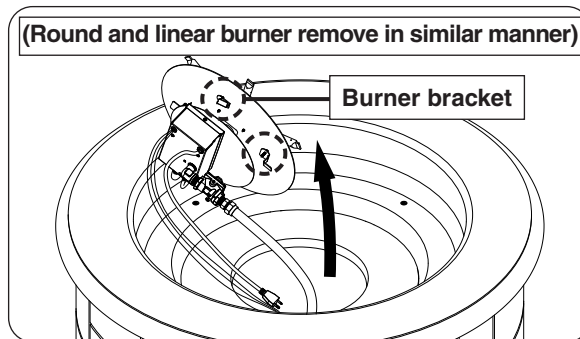

Fig. 48-1 Remove burner assy
1. Use a $\frac{5}{16}$ " nut driver to partially unfasten the eight screws found on the burner assembly. Then remove the burner and set it off to the side. Reference Fig. 48-1.
1. Use a $\frac{5}{16}$ " nut driver to partially unfasten the four screws found on the burner assembly. Then remove the burner and set it off to the side. See Fig. 48-1.